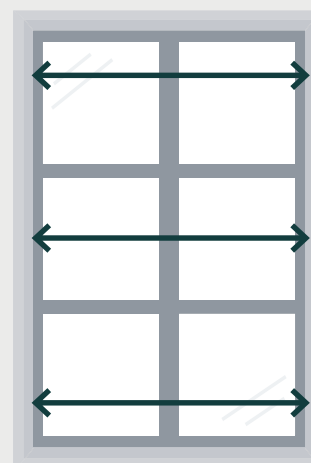

Fig. 2
STEP 2. Measure at 3 vertical points shown in (fig 2).
STEP 3. Record the smallest dimensions as the recess size (e.g. in fig 1 your width will be 918mm and your drop measurement 993mm in fig 2).